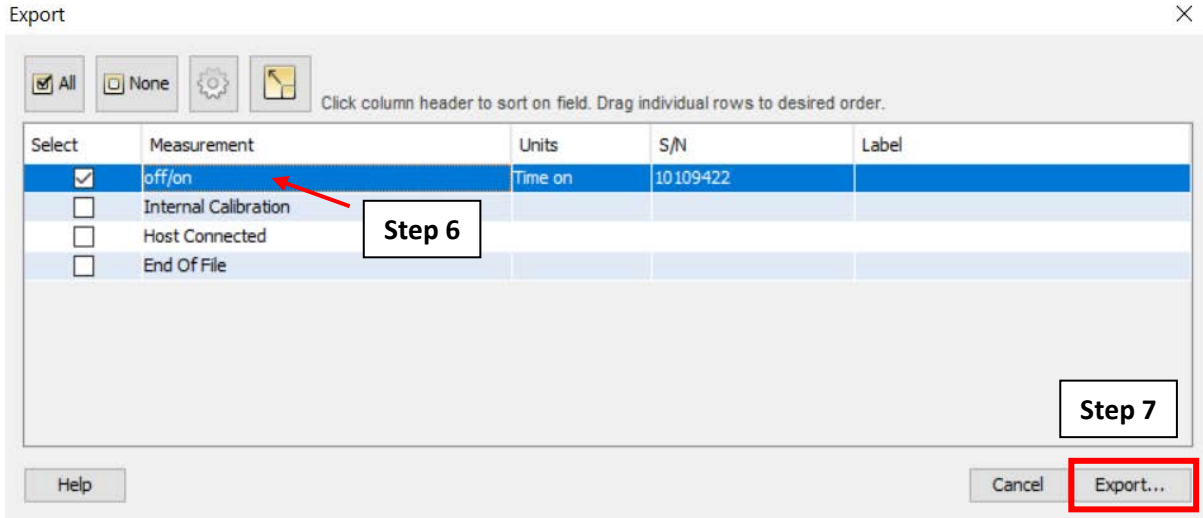

Figure A.9.23: The “Export” Window and corresponding steps.
4. The “Export” window will open and display the data available to export (Figure A.9.23).